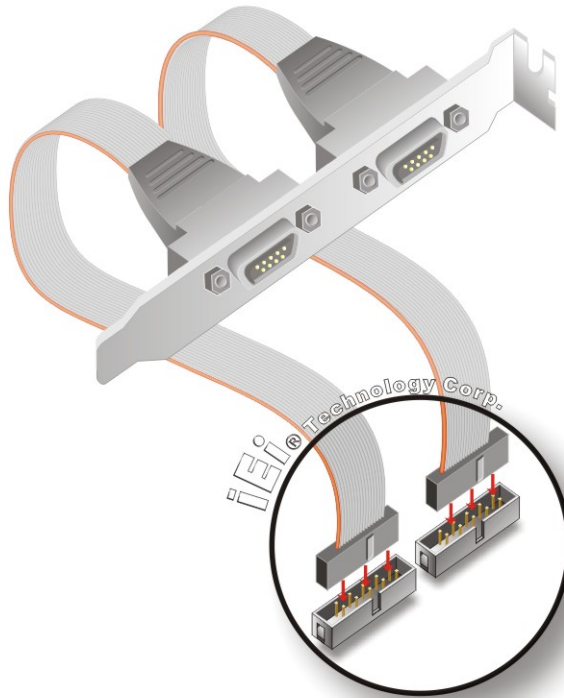

Figure 4-9: Dual RS-232 Cable Installation
- Step 2:** **Insert the cable connectors.** Insert one connector into each serial port box headers. See Figure 4-9. A key on the front of the cable connectors ensures the connector can only be installed in one direction.